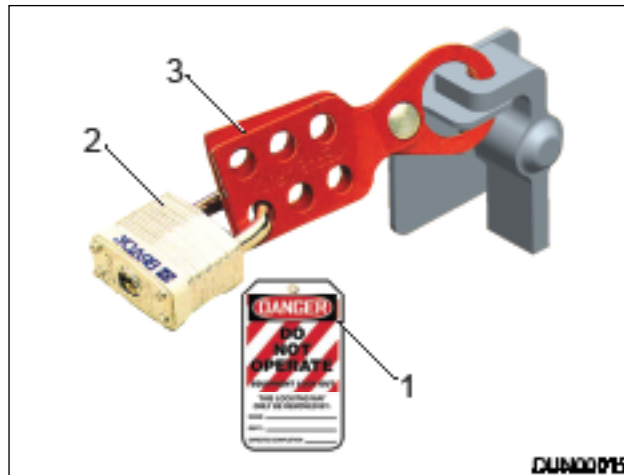

Figure 8.2 - Isolator Switch Off, Locked and Tagged
4. Fit the lock out hasp (Item 3) and unique padlock (Item 2) on the main power isolator and keep the key to make sure no one can remove your lock and turn the power back on, Ref: Figure 8.2.
5. Place a Tag (Item 1) on the lock that identifies you (by your name, picture or number) as well as the date and time you locked it out Ref: Figure 8.2.